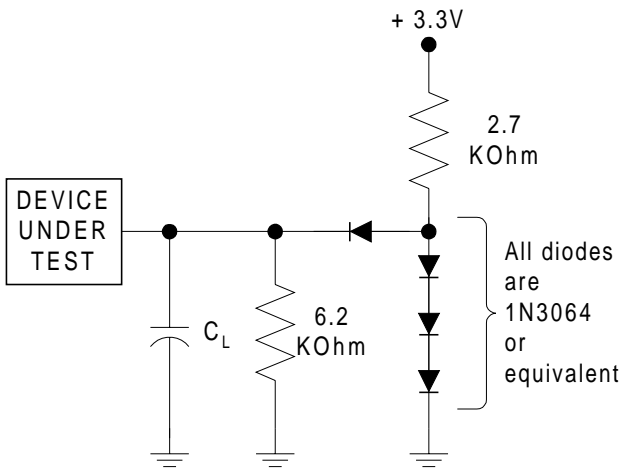

Figure 15. Test Setup
2. See Figure 15 and Table 15 for test conditions.
- See Figure 15 and Table 15 for test conditions.